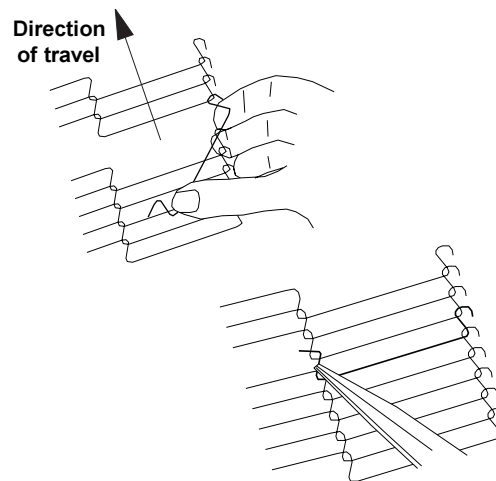

Figure 2-28
- Connect the outside master links. Note that the outside master links have right and left sides. The right-side master link has an open hook facing you, as shown in Figure 2-28.